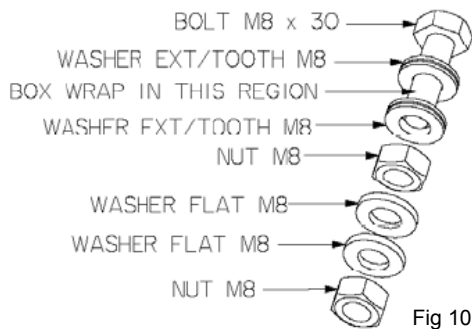

Fig 10
- Put the bolt with the washer through the hole in the side of the distribution board from the outside in. Fit the second M8 serrated washer onto the bolt on the inside of the board followed by a M8 nut (Fig 10). Tighten the nut and bolt to 3.0Nm so that the serrated washers cut through the paint and ensure earth continuity. Fit the two nut can be left finger tight at this stage until earth terminals are fitted.